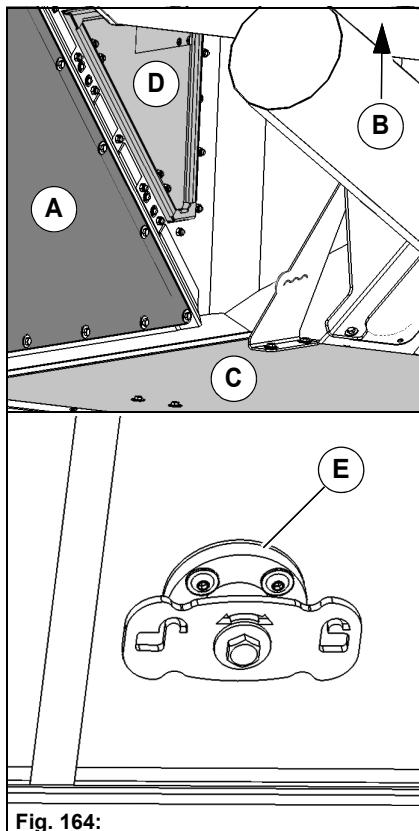

Fig. 164:
2. Half raise the dirt hopper and open the lock **Fig. 164-E** of the sump flap (hopper floor). Then bring the dirt hopper into its end position.
3. Clean the dirt hopper from the inside with a water hose or a high-pressure cleaner. Pay special attention to the lateral filter sieve **Fig. 164-A** and the filter sieve **Fig. 164-B** in the lid.
The dirt hopper can also be cleaned through the side doors **Fig. 164-D**. The suction fan of the dirt hopper must be switched off to open the doors!
4. When the dirt hopper is raised, the valve of the settling tank **Fig. 164-C** opens. Clean the settling tank and flush through the circulating water system with water.